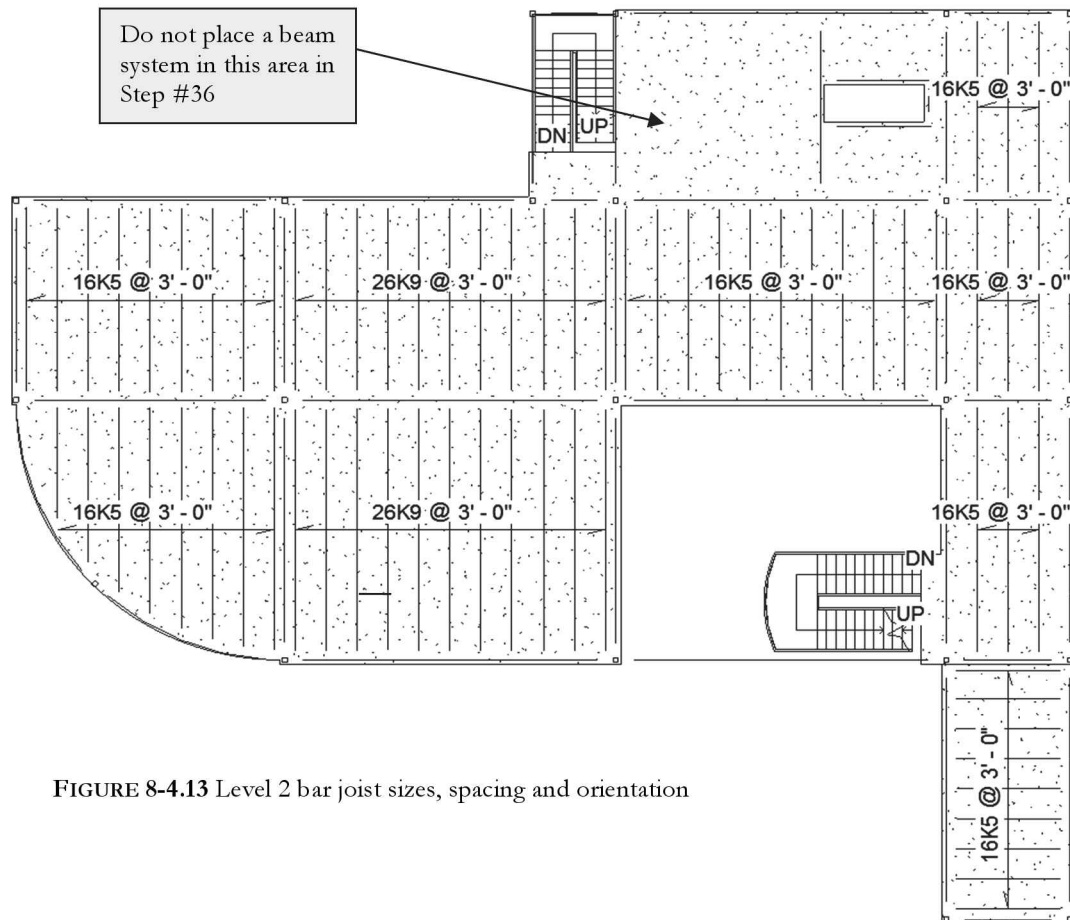

FIGURE 8-4.13 Level 2 bar joist sizes, spacing and orientation
36. **Save** first, and then place the remaining *Beam Systems* for the information shown in Figure 8-4.13.